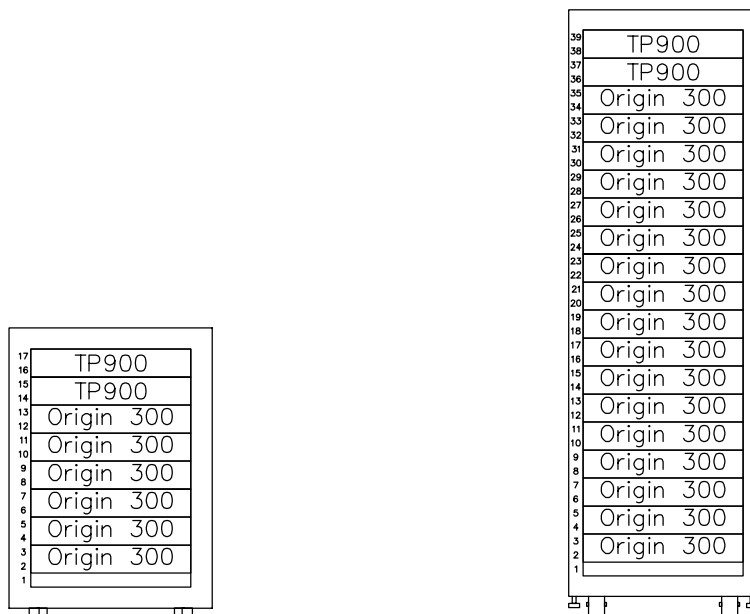

Figure 3-1 Examples of SGI Origin 300 Configurations without a NUMAlink Module
The SGI Origin 300 rack systems can be configured with or without a NUMAlink module. Both systems support two rack types: a short rack and a tall rack. The racks are measured in standards units (U); one unit is equal to 1.75 in. (44.45 mm). The short rack is a 17U rack and the tall rack is a 39U rack. Refer to Figure 3-1 and Figure 3-2.
The SGI Origin 300 rack system without a NUMAlink module can be configured with 2 to 8 processors in 2-processor increments. A system maximum of 2 SGI Origin 300 servers is supported. Refer to Figure 3-1.